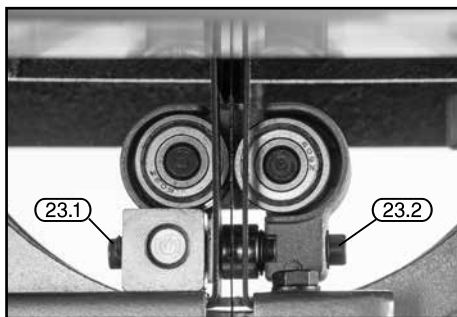

FIG. 21
9.10 IF REQUIRED TO ADJUST THE LOWER BLADE GUIDES – FIG. 21